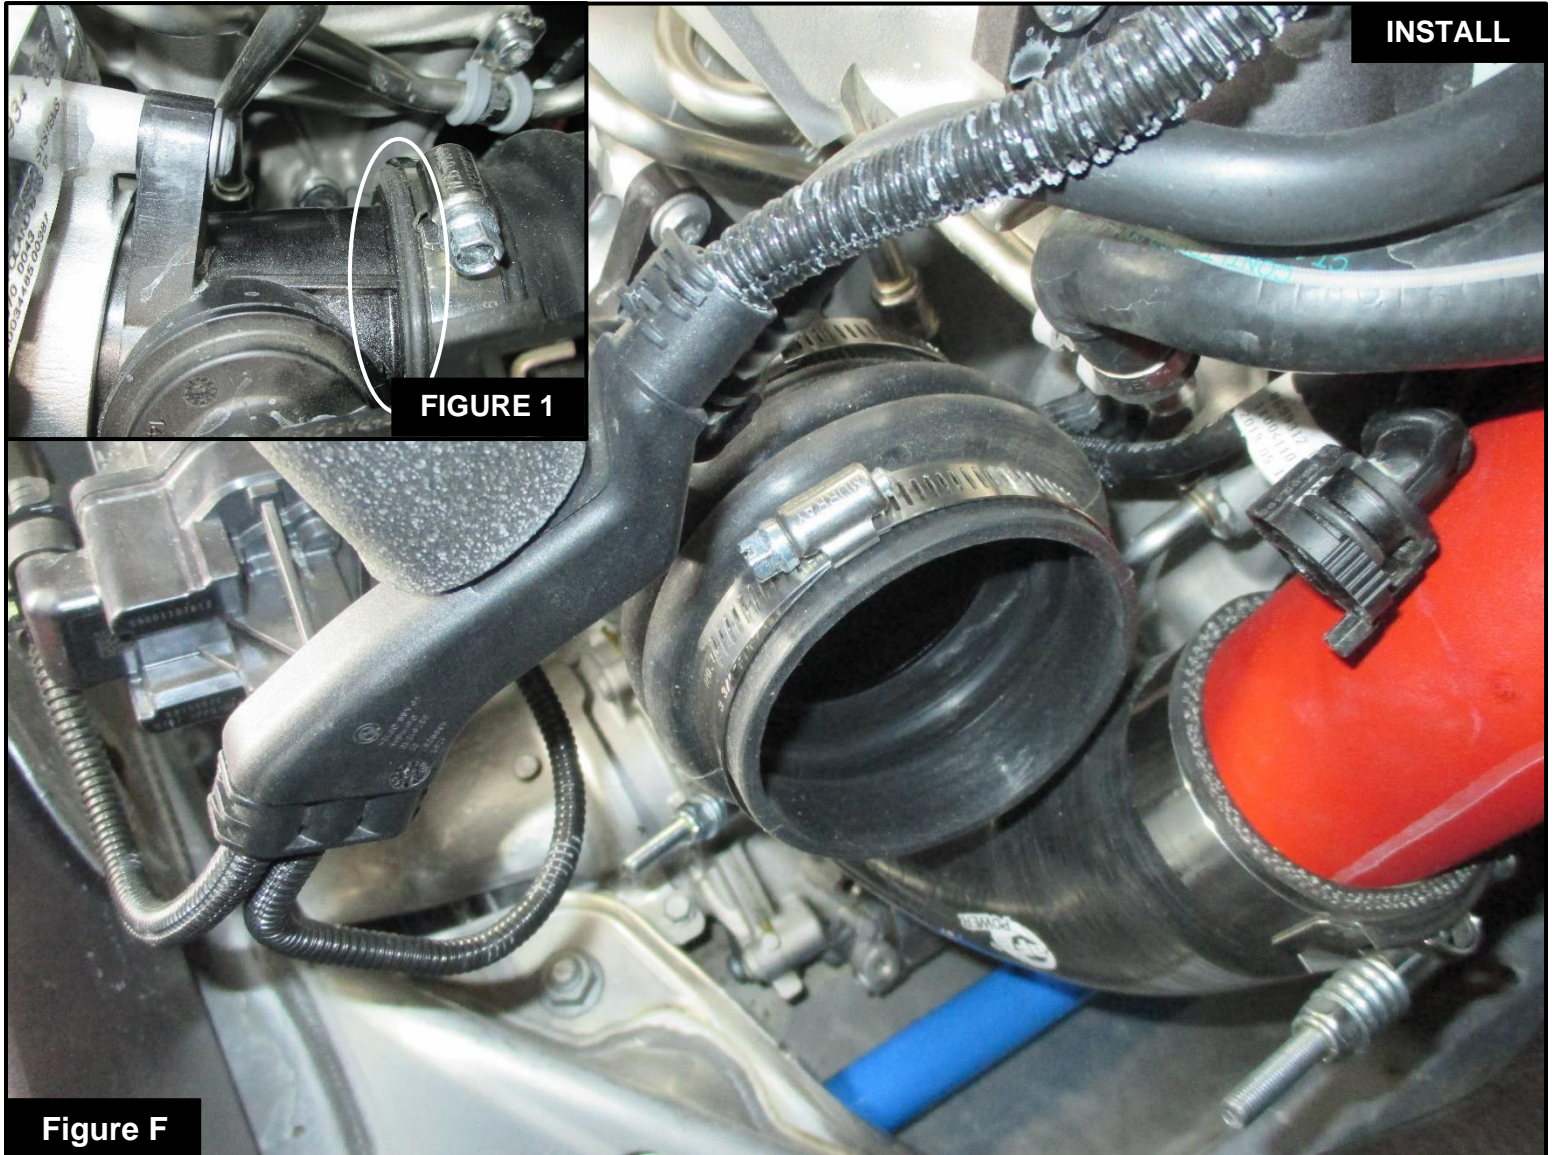

FIGURE 1
Step 14: Make sure to have the end of the coupling sit flush to the rim of the turbo inlet. This is to make sure the interior lip of the coupling sits correctly in the groove of the turbo inlet. See Figure 1.